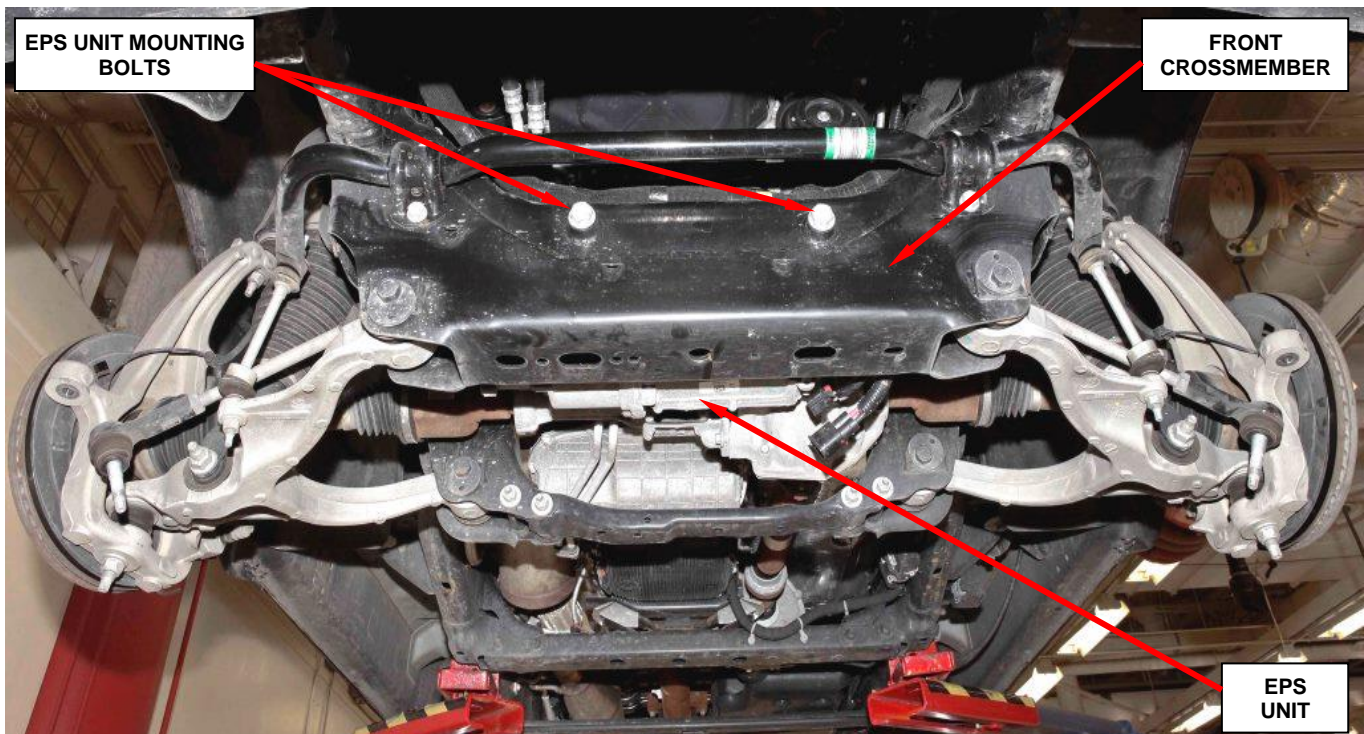

Figure 4 – Electric Power Steering Unit Mounting Bolts (4x4 Shown)
13. Remove and save the two EPS unit mounting bolts (Figure 4).
19. Install the two EPS unit mounting bolts and tighten them to 133 ft. lbs. (180 N·m) plus $\frac{1}{4}$ of a turn (Figure 4).